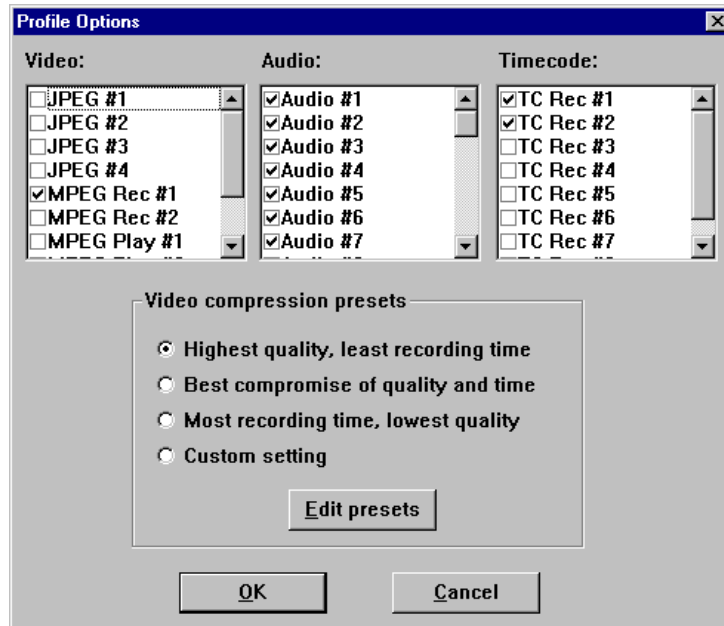
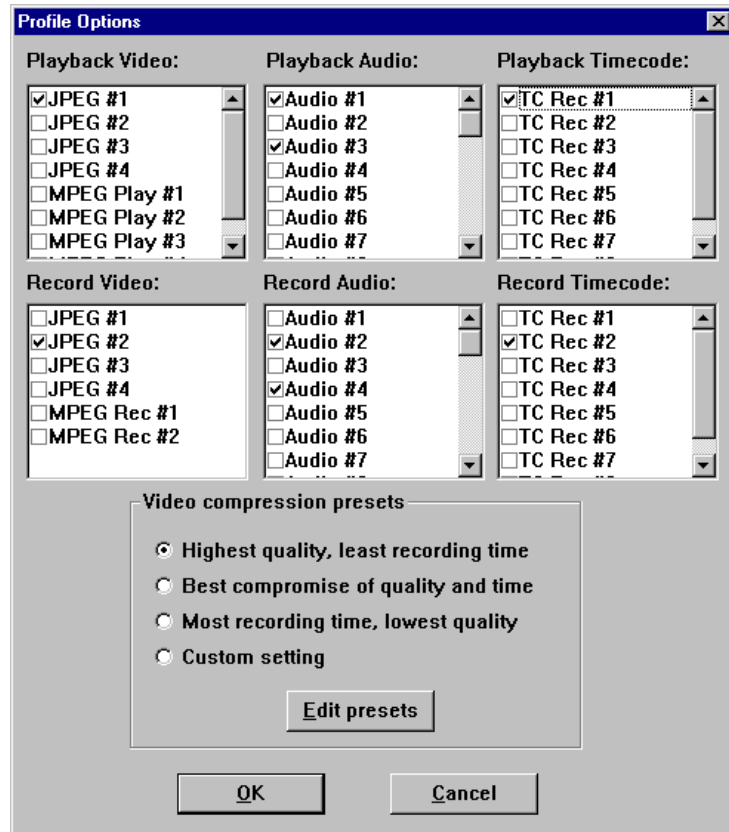

Figure 80. Profile Options dialog box
Figure 81. Profile Options dialog box (BVW [insert-edit] only)
3. Choose **Controller | Configure** to open the Profile Options dialog box for the selected panel. Figure 80 illustrates the standard Profile options with an example configuration selected; Figure 81 illustrates the Profile Options dialog box for BVW [insert-edit], also with appropriate selections shown.
2. Choose **Controller | Configure** to open Profile Options (see Figure 80 on page 167).